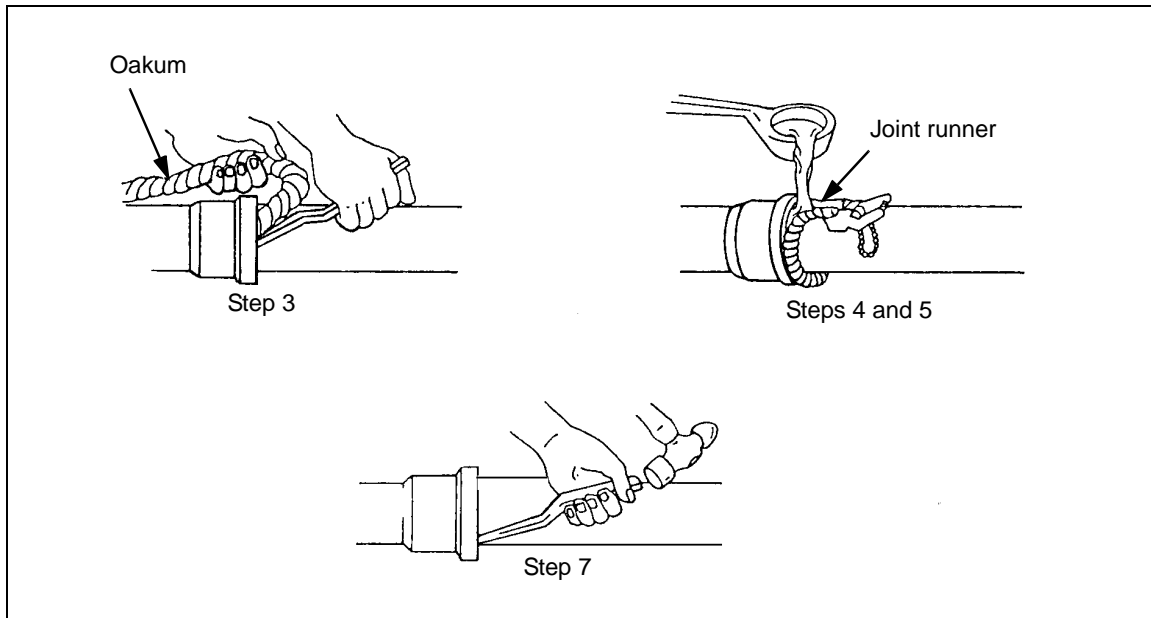

Figure 6-16. Horizontal Lead Joint
6-41. **Horizontal Lead Joint.** Use *Figure 6-16, page 6-16*, and the following steps to make a joint.
Step 3. Pack strands of oakum into the hub completely around the pipe or fitting with a packing iron to within 1 inch of the hub's end (*Figure 6-16*).
Step 4. Clamp the joint runner around the pipe or fitting (*Figure 6-16*).
Step 7. Caulk the lead (*Figure 6-16*).